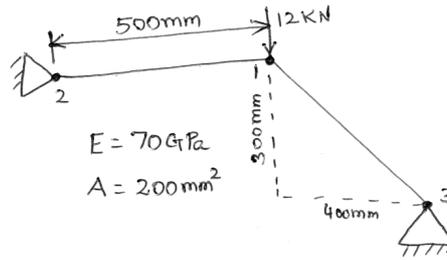

Figure-4
- b) For two bar truss shown in figure-4. determine the displacements of node 1 and the stress in element 2.